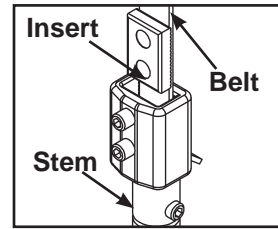
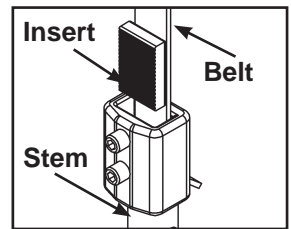

Figure 2A
Figure 2B
- Verify belt and insert are installed properly, as shown in Figure 2A. **NOTE:** Do not install the insert backwards as shown in Figure 2B.